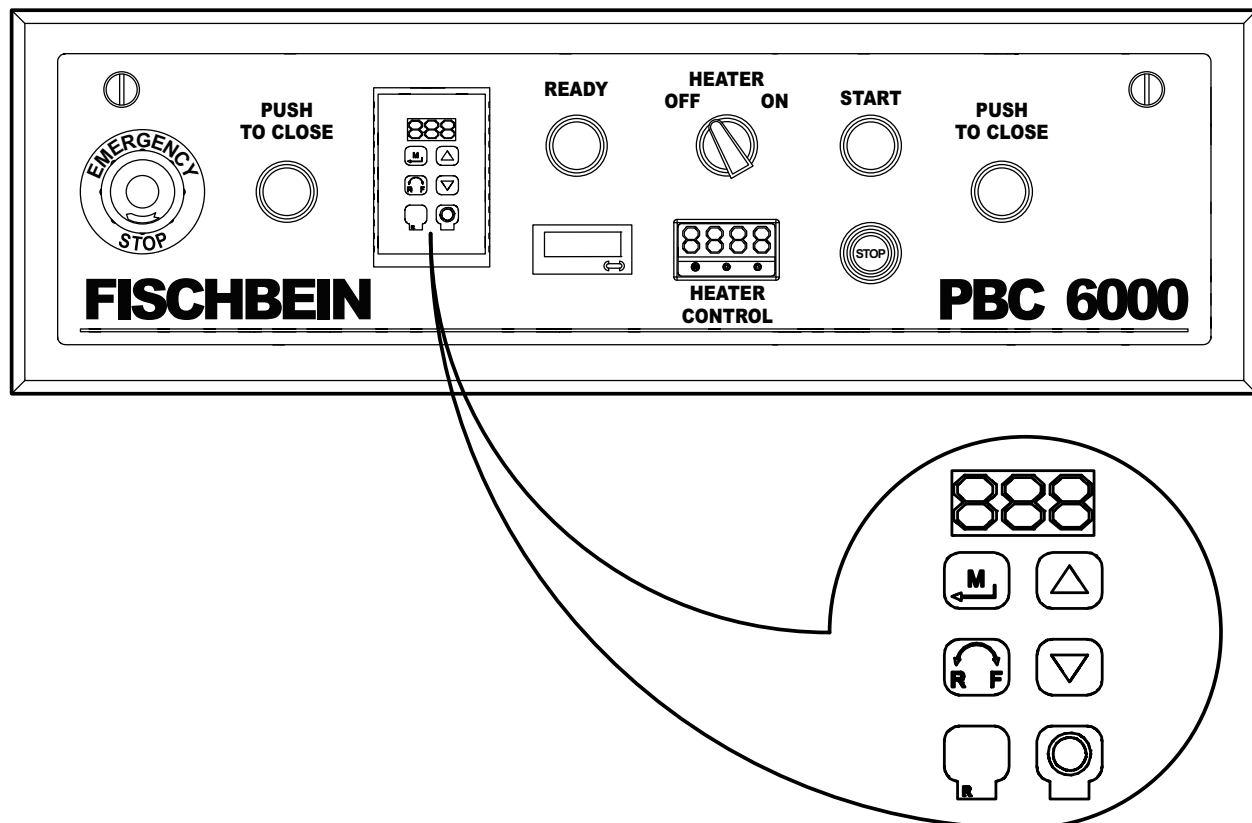

Figure 3-9: Speed Control
Synchronizing the machine involves adjusting external and internal rates to provide a good strong seal. The external synchronization is between the machine and the conveyor system. The carry through belts of the machine provide the speed for folding and sealing the bag top. These belts must be set to run at the same linear rate as the conveyor system. If the timing between the two systems does not match, the bag will be tilted forward or backward and will not completely seal the bag. Use a hand-held tachometer set for measuring feet per minute or meters per minute and check the linear speeds of the two systems. The machine's speed can easily be adjusted by pressing the up or down arrows on the keypad (see Figure 3-9: Speed Control). The UP arrow increases the speed, while the DOWN arrow decreases it. Always remember to adjust the speed of the machine when the line speed changes.
5. Push the green **START** button (see “START Button” on page 2- 5.) to start the machine. The button should stay illuminated if there are no system errors (see Figure 3-9: Speed Control).